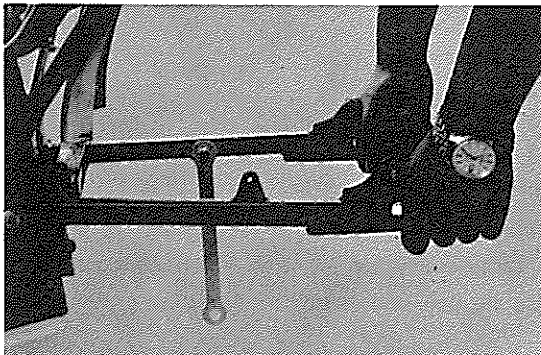

Fig. 4-8-3
- 1) Check the play of the rear swing arm by shaking it as show in Fig. 4-8-3, with the rear swing arm installed.